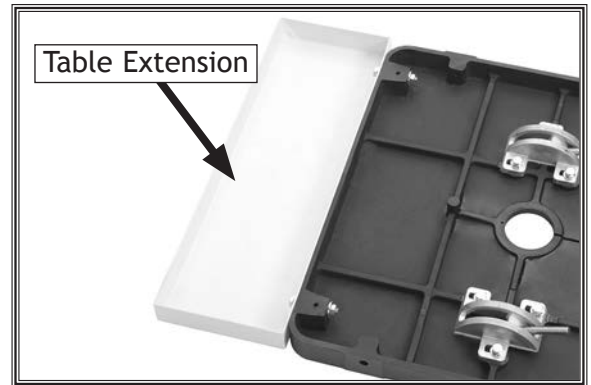

Figure 10. Table extension attached to table on flat surface.
2. Attach the table extension to the table with the two  $\frac{5}{16}$ -18 x 2" hex bolts, two  $\frac{5}{16}$ -18 hex nuts, and four  $\frac{5}{16}$ " flat washers, as shown in Figure 10. Make sure that the table and table extension are firmly pressed against the flat surface and tighten the bolts/nuts.